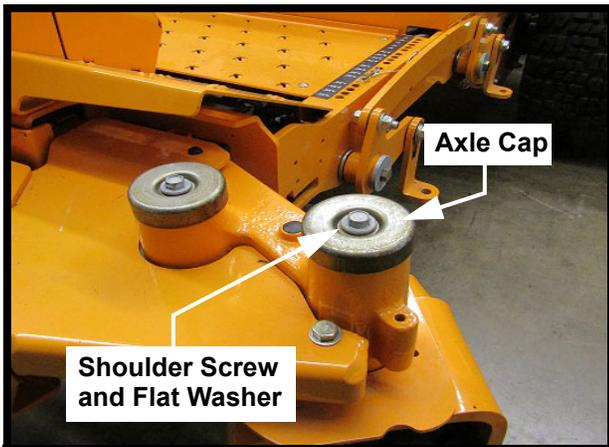

FIGURE 3
7. Remove the shoulder screw and flat washer securing the axle cap as shown in Figure 3. Retain all Hardware and axle cap.